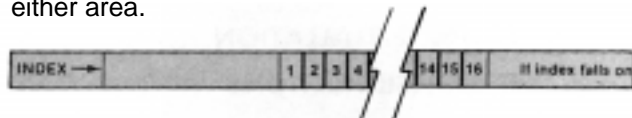

FIGURE 5 - TIP CABLE Mea-SURE™ TAPE
3.06 Measuring Tip Cable - Use the Tip CABLE Mea-SURE Tape to determine the proper size hole in the end plate. (Figure 5)